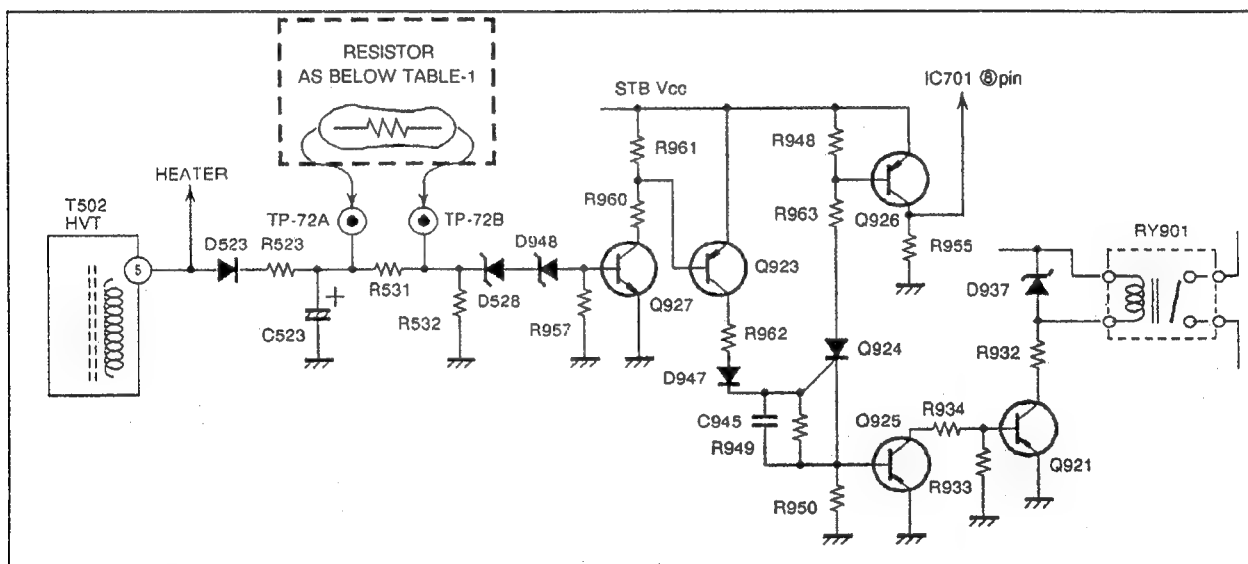

Fig. 2
- (1) Make sure that the power SW is at OFF.
- (2) As shown in Fig. 2, set resistor between TP-72A and TP-72B as below TABLE-1.
- (3) Turn the power SW ON.
- (4) Make sure that the screen picture disappears.
- (5) Turn the power SW OFF.
- (6) Remove below resistor from TP-72A and TP-72B.